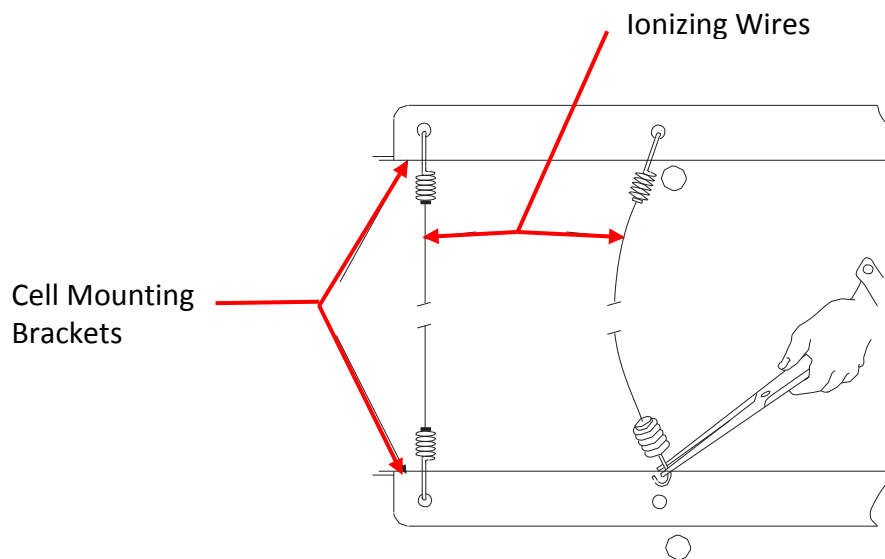

Figure 4-30-1
1. Remove all of the broken wires from the Cell mounting brackets (Refer to Figure 4-30-1).